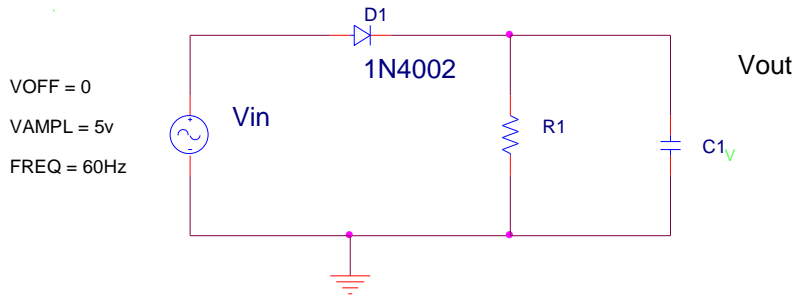

Figure 3: Half-wave rectifier
6. Using the half wave rectifier Fig 3, $V_{AMPL} = V_{in_PEAK}$ design a circuit in which a capacitor is in parallel with R1 (use R1 from part 3b above) such that the ripple voltage, V_r , is 0.5Vpp. Assume that $V_{drop} = 700mV$ for the D1N4002. Be sure to show all your work. T is the period of the waveform and it will be different for half-wave and full-wave circuits. Solve for C. Set $V_{in} = 5V_{peak}$